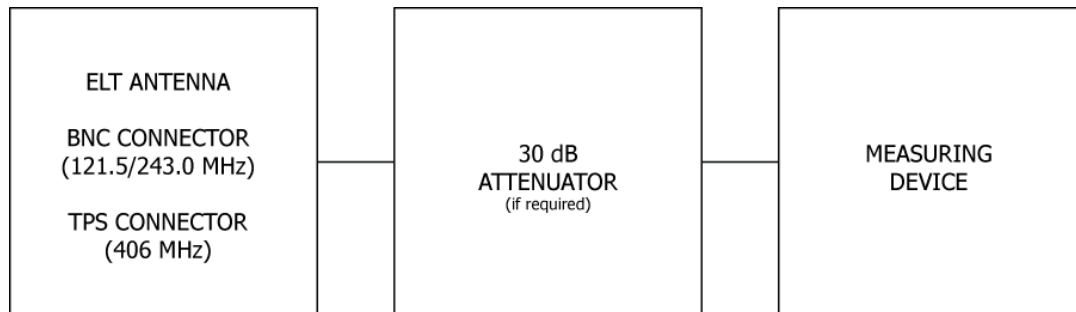

Figure 9 Performance Testing Equipment Setup
- 3) Ensure that adequate attenuation rated for 406 MHz is installed between the ELT antenna output and the measurement equipment to prevent damaging input circuitry, if required. At a minimum, the attenuator should be rated at 30 dB, and 5 watts for a 1/2-second duration as shown in Figure 9.